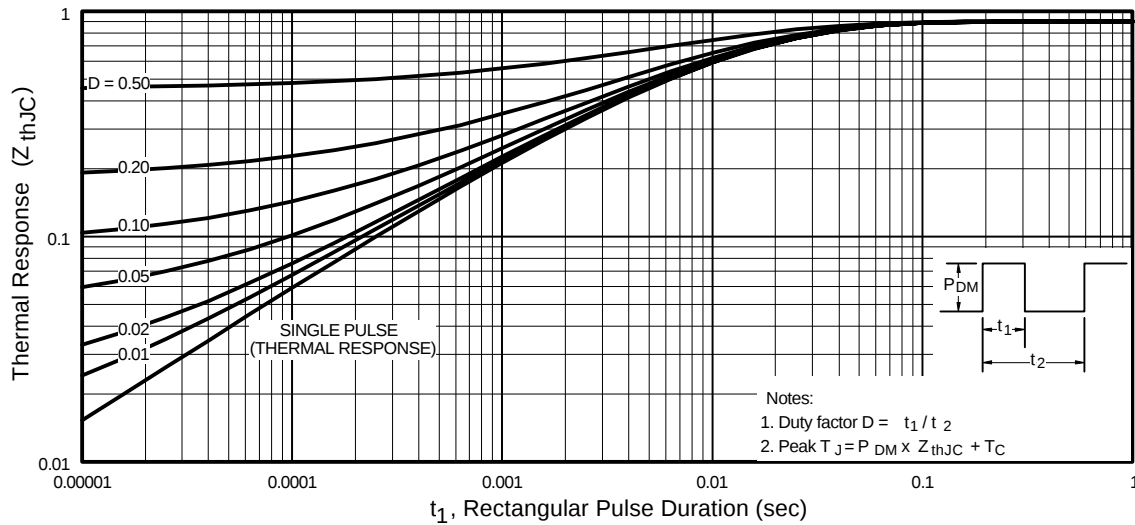

Fig 11. Maximum Effective Transient Thermal Impedance, Junction-to-Case
- ① Repetitive rating; pulse width limited by max. junction temperature. (See fig. 11)
② $V_{DD} = 15V$, starting $T_J = 25^\circ\text{C}$, $L = 0.18mH$